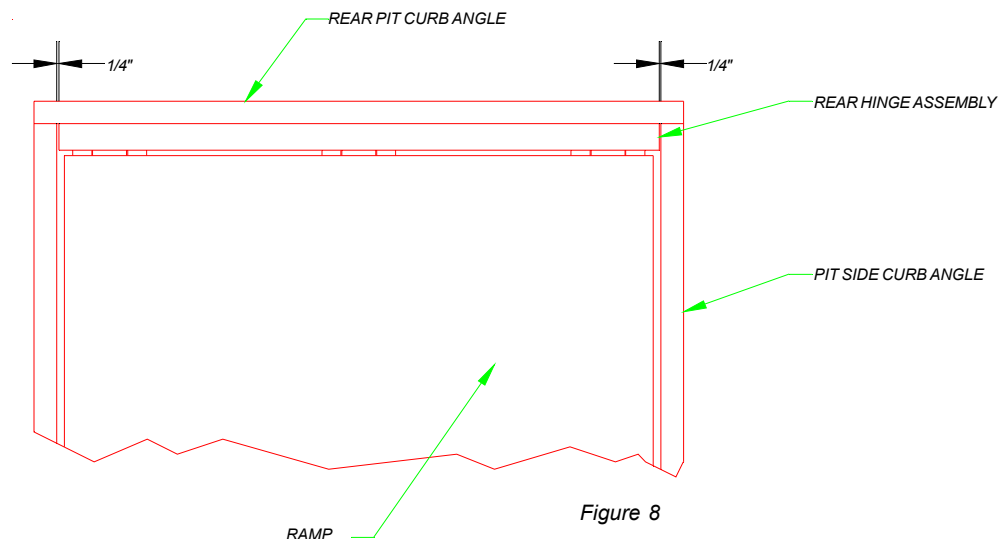

Figure 8
6. Check alignment of dockleveler with the pit. If the pit conforms to the certified pit drawings, there will be a 1/4" gap between the ends of the upper frame angle and the side curb steel. There should also be a 1" gap between the leveler platform and pit sides (see figure 8).